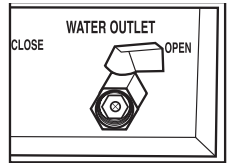

Fig. 2
3. Rinse thoroughly and drain by opening the water outlet, accessible when the door panel is opened. (Fig. 2) You may connect a hose (not supplied) to the water outlet (connection is female NPT 1/2 x 12) or drain direct from the valve. Open the water outlet and drain into a bucket or similar container.